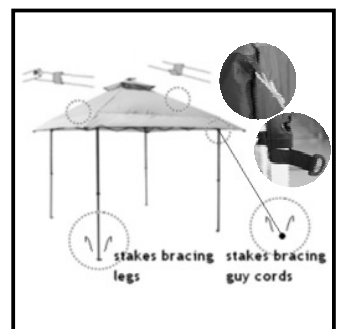

Fig. 8
- j) Use the hook and loop straps to secure each corner of the fabric to the upper portion of each leg and secure remaining hook and loop straps to the frame. (see Fig. 8)
- b) unfolding the four guy cords, locating on the top, outside corners of the lintel or the canopy when without awning (step 5.), extending the guy cords to ground level, securing the end of the guy cords to ground stakes, and then inserting the ground stakes into the ground. (see Fig. 8)